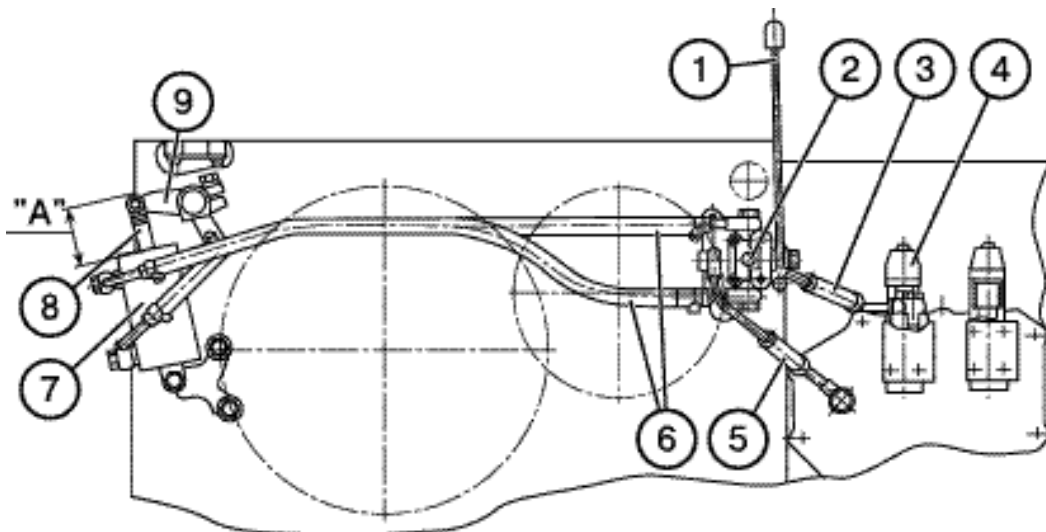

Fig. K-5.
1. Set PTO rod (1) to position «Off» (an extreme lower position) as described in the figure K-5.
2. Remove a bolt (13) and a plate (12) as described in the picture K-6.
3. Using a wrench (S=14 mm) turn an eccentric control roller (3) clockwise by an angle of about 30°.
4. Reinstall the plate and the bolt (13) back.